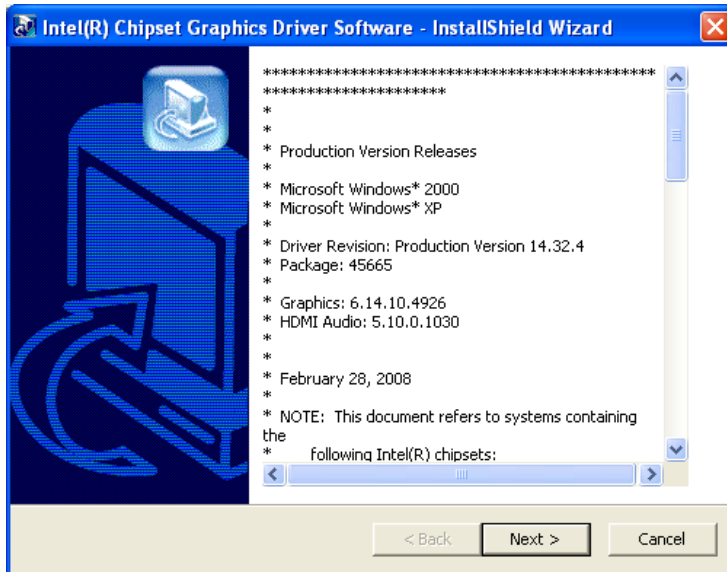

Figure 6-8: VGA Driver Read Me File
- Step 3:** The VGA Read Me file in Figure 6-8 appears.